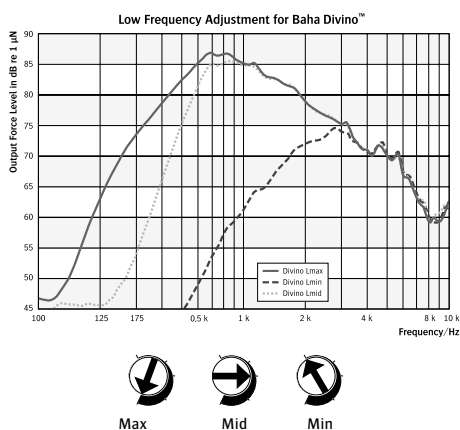

Fig. 16 See page 35 for larger scale.
The Divino is equipped with AGCO (output compression) to avoid distortion at high output levels. The AGCO control (9) is located beside the L control. Turn the control counter clockwise to decrease the compression threshold (reduces output and distortion at high levels). (see Fig. 16).